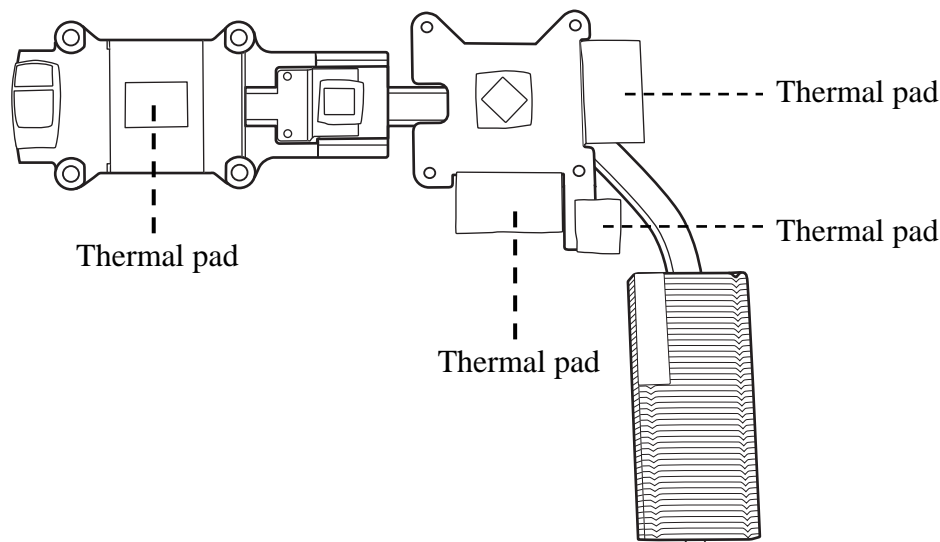

Figure 4.31 Reapply Shinetsu 7726 grease on the thermal module and remove any release papers
1. Reapply Shinetsu 7762 grease on the thermal module as shown in Figure 4.31. If you use a new thermal module, remove any release papers from the thermal pads first.
NOTE: When thermal pad needs to be changed, please paste it in the location indicated in Figure 4.31.